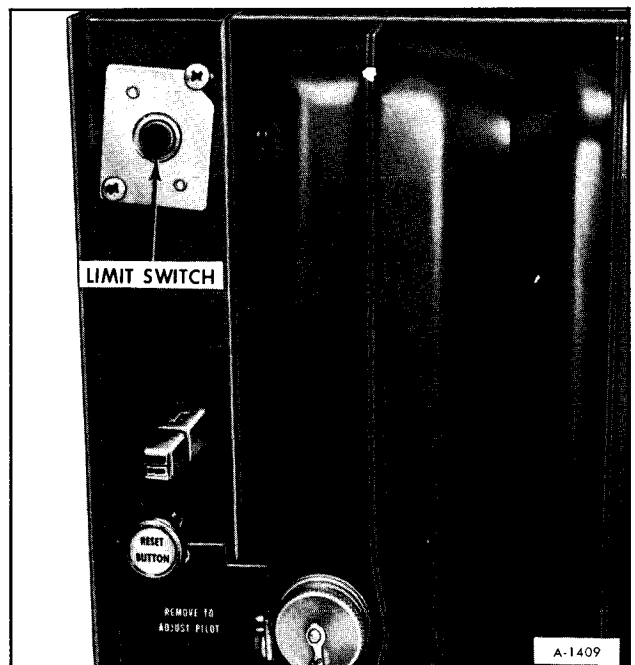

Figure 43—Type II Furnace Limit Switch
2. Disconnect two wires at rear of limit switch located at upper front corner (See figure 43).
1. Install limit switch and secure with two screws (figure 43).